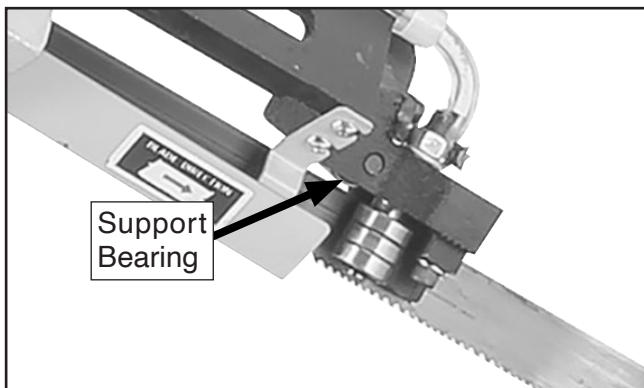

Figure 78. Location of support bearing (upper blade guide shown).
3. Check clearance between blade and bearings (see **Figure 78**) on both blade guide assemblies. Bearings should make light contact with blade or have a clearance of 0.001"–0.002".
7. Repeat **Step 3** with blade and carbide blade guides (see **Figure 78**).